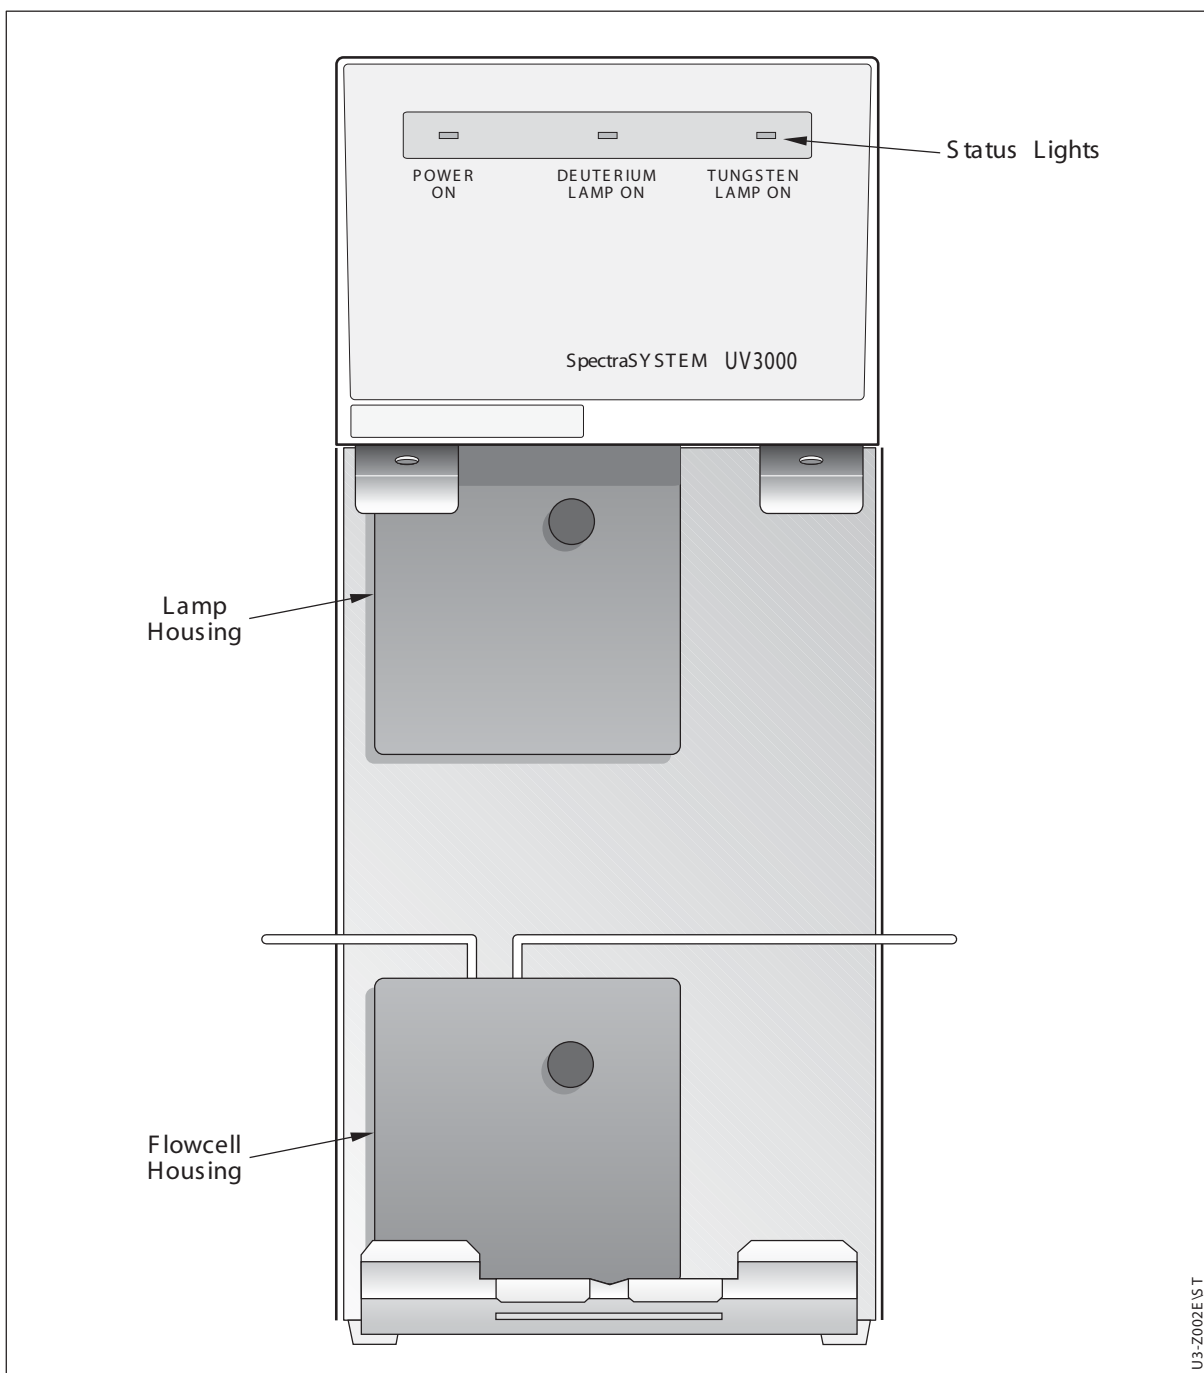
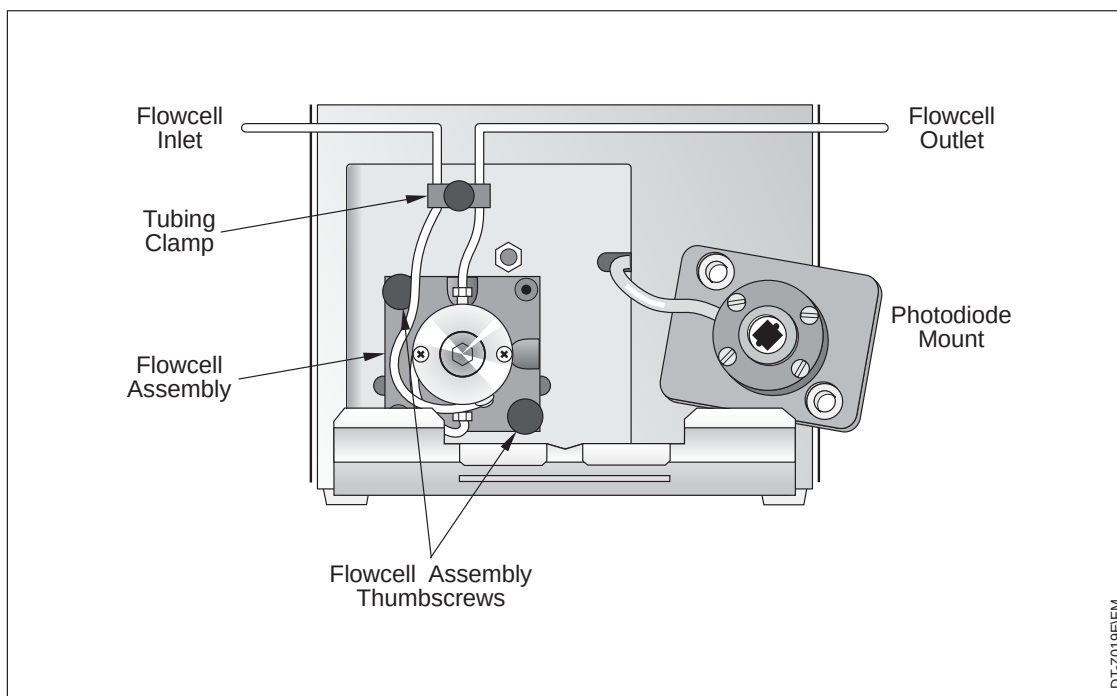

Figure 3.1 Detector flowcell and lamp housings
Figure 3.2 Removing the cell cover to expose the flowcell and the photodiode mount
To access the flowcell, remove the front panel of the detector. The flowcell assembly is located behind the lower housing (Figure 3.1). Once the housing is removed, the flowcell is easily identified by the tubing that extends from the fittings on either side of the cell body (Figure 3.2).
5. Loosen the two thumbscrews on the photodiode mount and carefully pull the mount straight back (Figure 3.2). The cable that connects the photodiode mount to the detector is sufficiently long to allow the mount to rest on the bench top.